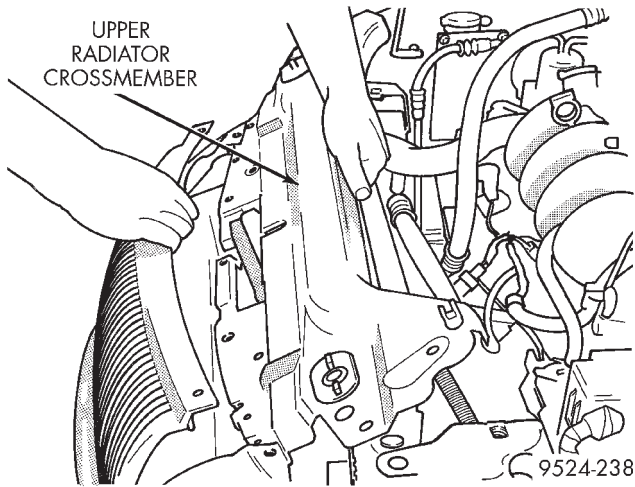

**Fig. 26 Radiator Support Crossmember**
(4) Remove upper radiator support crossmember (Fig. 26).
(5) Remove condenser lines. Use Special Tool kit 7193 for quick disconnect couplers.
(6) Remove radiator fan module mounts.